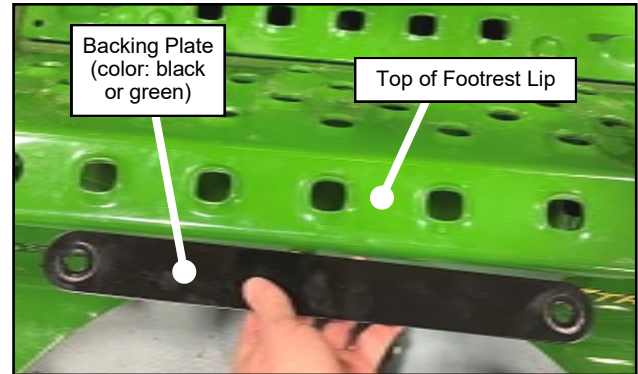

Fig. 1.23a (Install Ballast Box, Backing Plate)
1.23 Remove ballast box from shipping pallet. Next, install ballast box on the front edge of the vehicle. Install top bolts first into the vehicles floorboard (do not fully tighten). Place backing plate between the underside of the floorboard and locking nuts. Next, install front lower carriage bolts from inside the vehicle floorboard outwards to the front of the vehicle. To tighten down the lock nuts, you will need a 3/4" ratchet wrench to access the nuts found on the inside of the ballast box. Fully tighten the front bolts and then the top bolts. See Figures 1.23a and 1.23b.